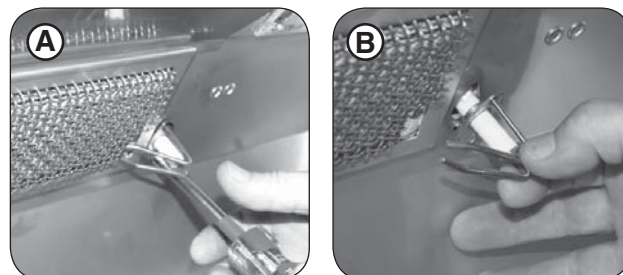

Fig. 28-2 Remove electrode
1. Remove the backburner electrode mounting screw (1/4" hex) (see Fig. 28-2, A) and loosen the electrode. Carefully pull the electrode assembly slightly from the grill wall to give enough clearance for the backburner to be removed (see Fig. 28-2, B).